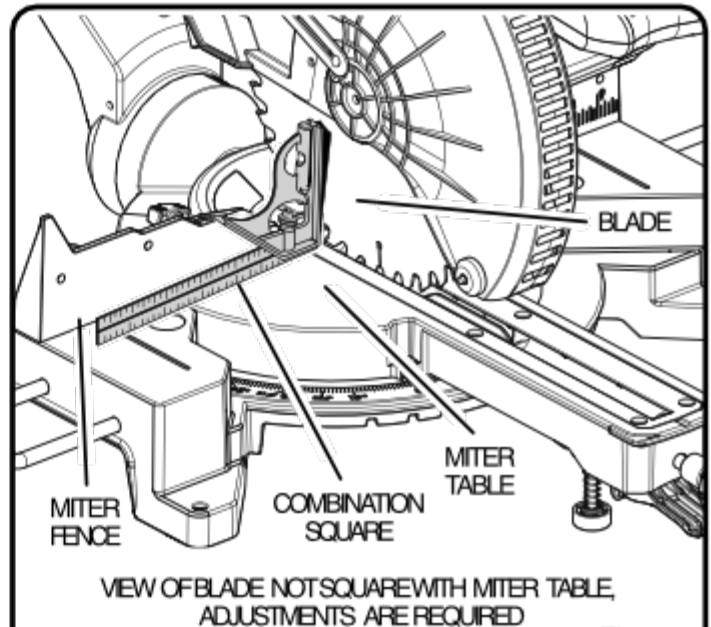

Fig. 25
- If the top or bottom of the saw blade angles away from the square as shown in figures 25 and 26, adjustments are needed.